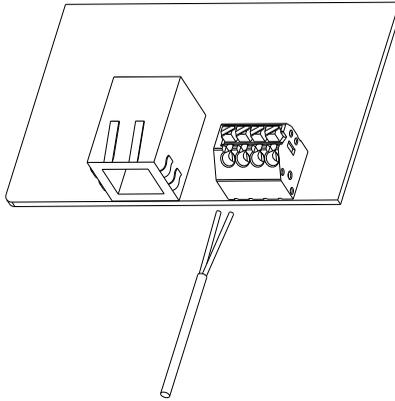

Figure 31
- For RS-485 communication a standard ethernet cable is recommended. The pin assignments are shown below. Strip the wire as shown in the figure 31, and crimp the copper wire to the appropriate OT terminal (according to DIN 46228-4, provided by the customer) if the cable is multi strand flexible conductor. The other end of the cable should be connected